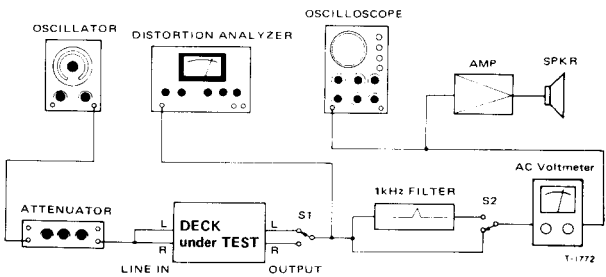

Fig. 5-1 Basic test setup
16. Erase efficiency	• Connection is same as in Fig. 5-1, but engage 1-kHz filter. • Record a 1-kHz signal. Rewind tape to midpoint of recorded portion. Record a "no signal" portion. Find the difference between the 1-kHz portion and the "no-signal" portion.
17. REC MUTE function	• Connection: Fig. 5-1, but engage 1-kHz filter. • Record a 1-kHz signal. Push REC MUTE button for several seconds. (At this time, make sure LED on the button lights). Rewind and play the tape. Find the difference between the 1-kHz portion and the "no-signal" portion.
18. Channel separation	• Connection Fig. 5-1, but do not connect LINE IN (R), and engage 1-kHz filter. • Set the deck to record mode. Find the difference between the 1-kHz recorded portion (L-ch) and the "no signal" portion (R-ch).
19. Adjacent track crosstalk	• Connection: Fig. 5-1, but do not connect LINE IN (L) and OUTPUT (L). • Record a 125-Hz signal on R-ch and note output level. Invert tape and play R-ch track. Check leakage level against the output reference of previously recorded portion.